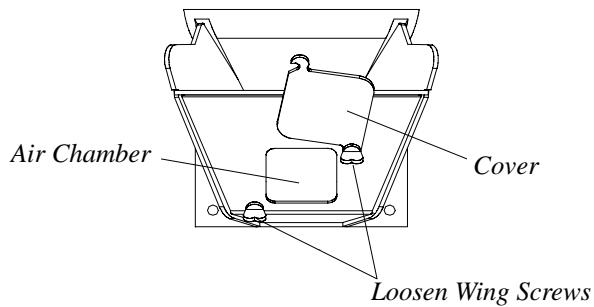

Fig. 26
5. Loosen wing screws and swing the burn pot clean out cover to the side. Clean out the air chamber and replace cover. See Figure 26.